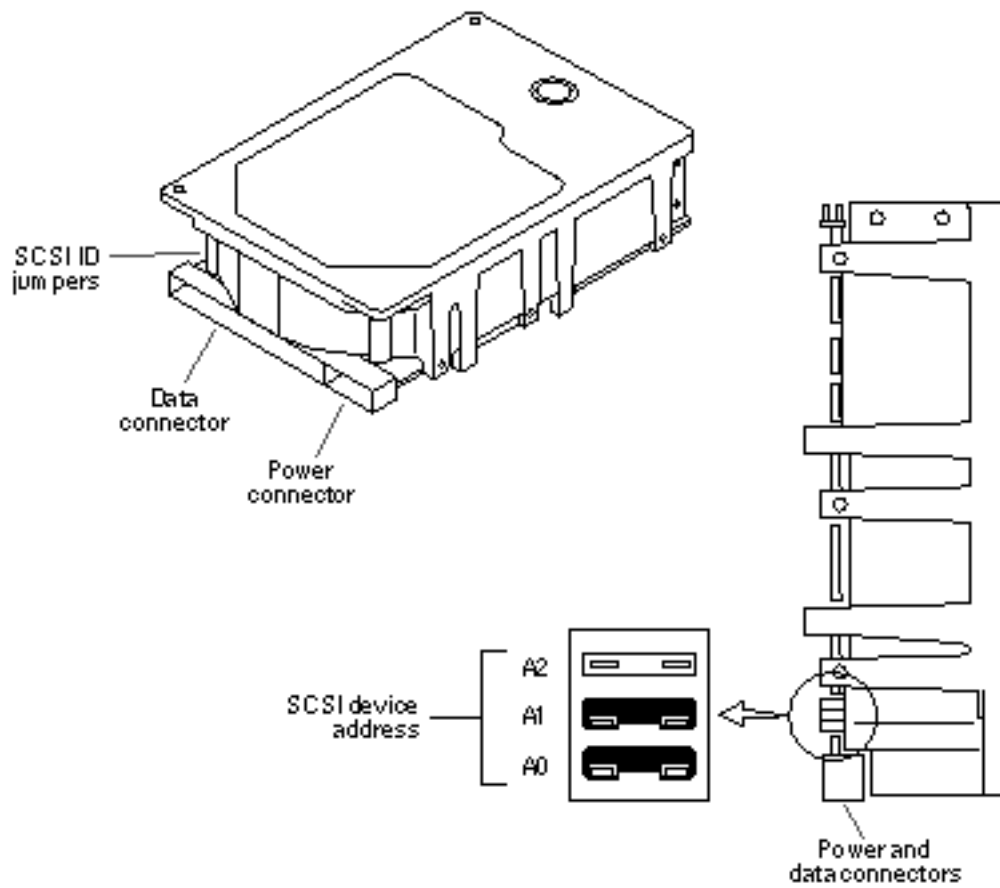

Figure 9-7 Jumper Settings for 1.0-Gbyte Drive (Part 370-1546)
The location of the SCSI ID jumpers depends on the type of drive shipped with your system. Figure 9-2 through Figure 9-7 show the jumper locations and settings for the various types of replacement drives. Note that only one of these illustrations applies to your hard drive.
- a. Determine which illustration among Figure 9-2 through Figure 9-7 matches your drive.**